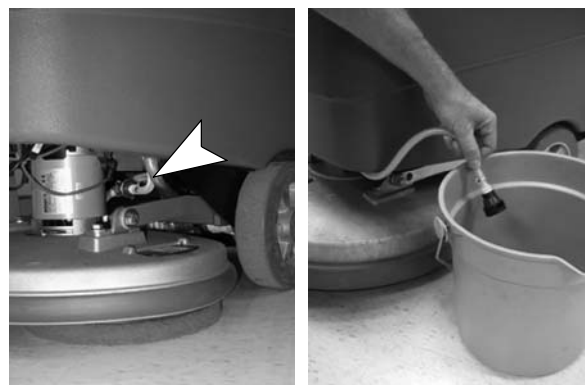

FIG. 58
3. Disconnect the black connector fitting at the scrub head and place the hose into a bucket (Figure 58).